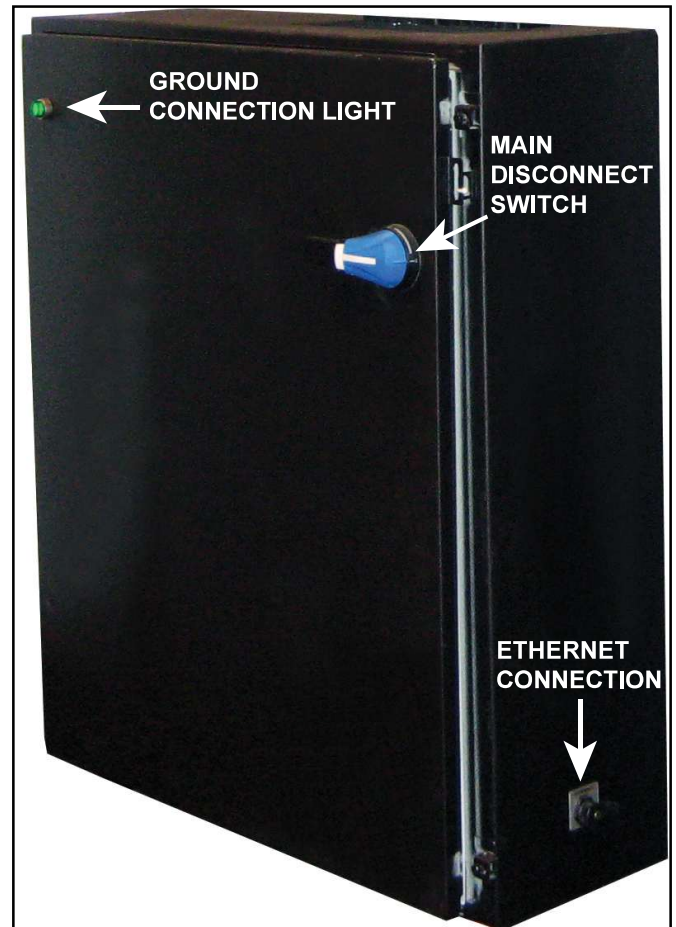

FIGURE 6-6 Main Electrical Enclosure
The Main Disconnect switch, located on the main electrical enclosure, controls the incoming electrical supply to the machine. See Figure 6-6. When turning the Main Disconnect switch OFF and back ON, wait 15 seconds before switching back to ON.
An Ethernet communications cable can be connected to the control via a plug on the bottom of the main electrical enclosure. See Figures 6-6 and 6-9.
4. Turn the Main Disconnect switch “OFF” and padlock the switch (Figure 6-6).